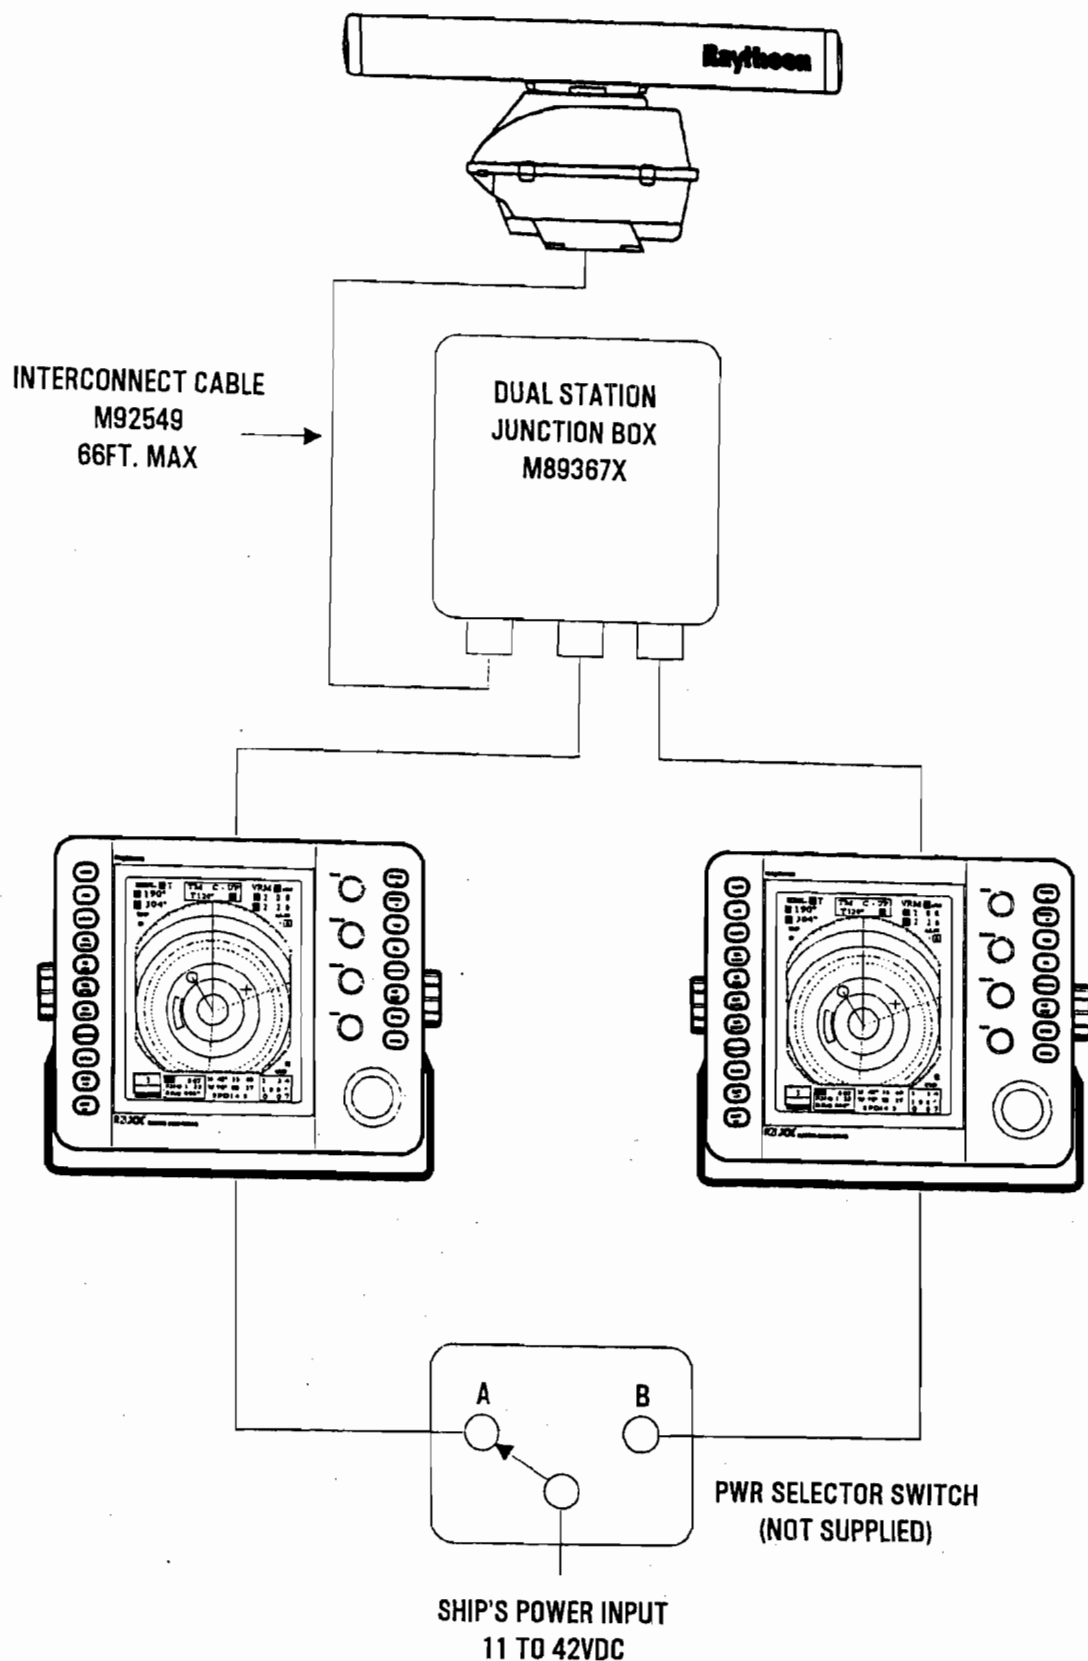

Fig. 2-22 CABLE CONNECTIONS FOR SELECTABLE MASTER OPERATION
In addition to the Remote Monitor configuration previously discussed in this manual, the option of selecting between two separate Master Display Units is available. Refer to Fig. 2-22 through 2-24, Pages 2-33 through 2-35 for proper system configuration and hookup. The Dual Station Junction Box (M89367X) will allow the user to select between one of two Radar Display Units which can be used with one pedestal or radome. The Master Display Unit will primarily be controlled by the DC power selector switch (customer supplied) which will supply 11-42 Vdc to the desired radar system. The Dual Station Junction Box used in this configuration is shipped with a 15 meter (49') cable for connection to the second Display Unit.
2. Using the Dual Station Junction Box, cut the display to pedestal interconnect cable at the desired point and splice this cable into the junction box. See Fig. 2-22, (Page 2-33).